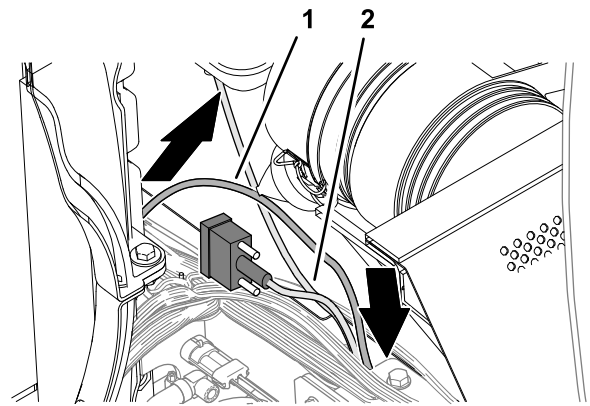

**Figure 162**
- At the rear side of the radiator, route the modem data cable upward (Figure 162).